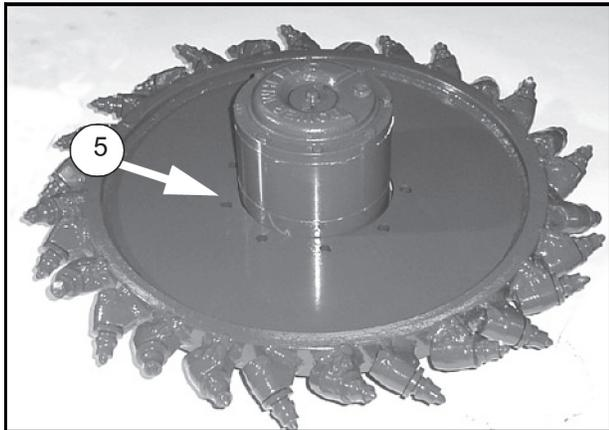

Figure 14.
3. Remove the 9 bolts, nuts (5), and their associated washers that attach the cutting wheel to the gearbox as shown in Figure 14.
2. Carefully place the wheel over the pilot surface of the gearbox so when viewed from above the picks are oriented as shown in Figure 14.